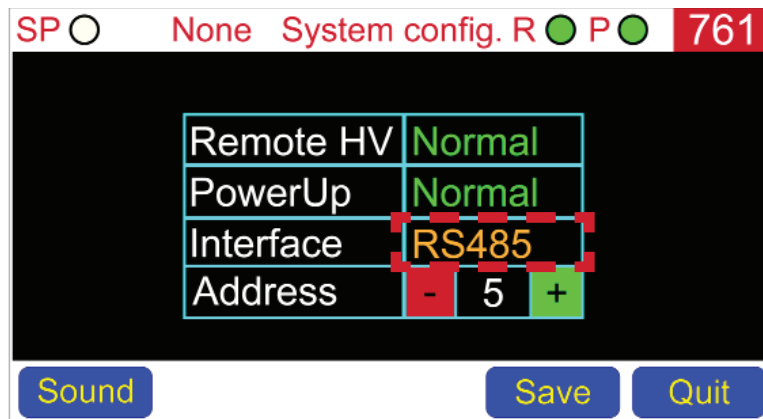

Figure 23. Interface toggle button with RS-485 address input
3. As shown in Figure 23, all the system-specific parameters are available on screen
As shown in Figure 23, the Status Bar will display the selected protocol after tapping **Save**.
To change the Terranova® 760 series address from default 5, the communication protocol must be set to RS-485. See "Selecting the Communication Protocol" to change the communication protocol. Thereafter, the Address parameter will appear below the Interface setting (see Figure 23). To change the address, the user should tap the "+" and "-" buttons to increase or decrease